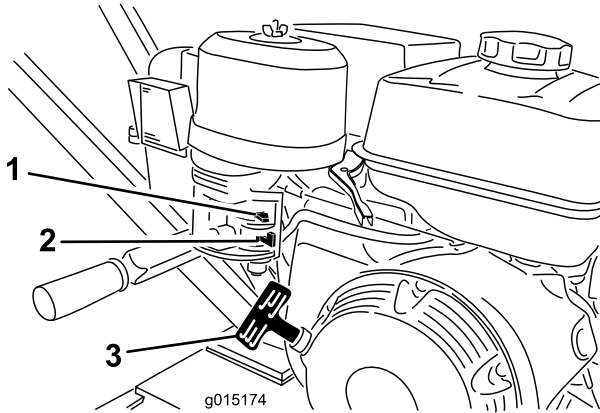

Figure 11
1. Move the fuel valve to the Open position, all the way to the right (Figure 11).
4. Pull the starter handle lightly until you feel resistance, then pull the handle briskly. Return the starter handle gently (Figure 11).